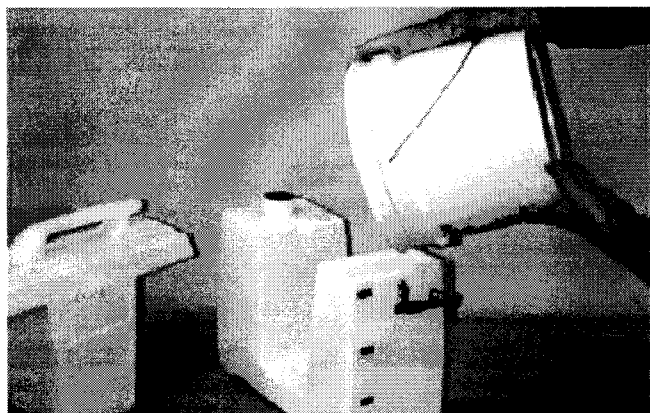

FIG. 2.
2. Pour up to two gallons (7.5 liters) of hot water into clean water tank. Water temperature must not exceed 140°F (60°C). If you are only cleaning a small spot, pour in less water. Decal on clean water tank shows water level. (Figure 2.)